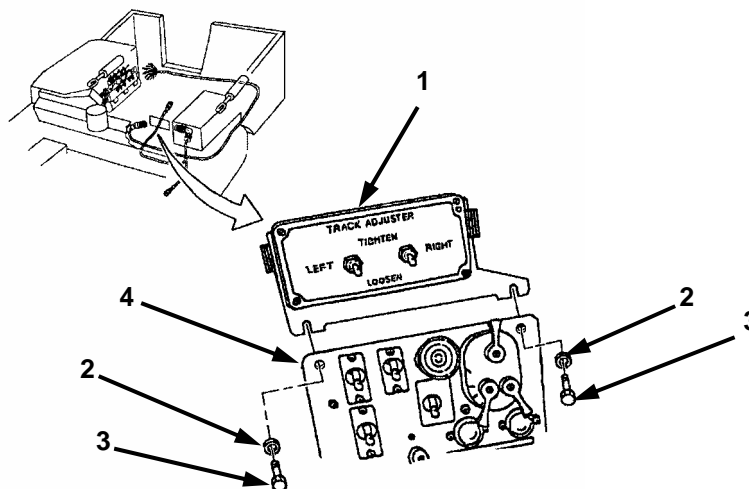

Figure 2-4. Suspension Control Electrical Box.
- a. Remove two screws (Figure 2-4, 3) and flat washers (2) from instrument panel (4) and retain for future use.